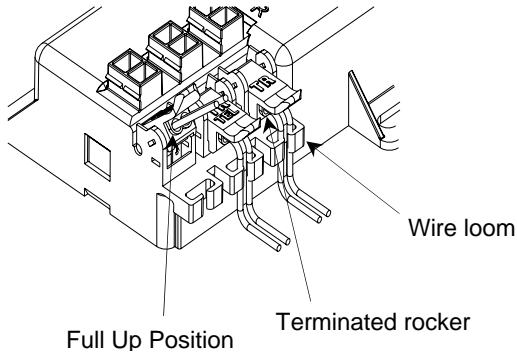

Figure 2
1. Lift the blue rocker for the digital voice service wires (MTA) to the full up position. DO NOT strip wires (See Figures 2 & 3).
2. Insert the digital voice service wires from ATA/EMTA through the grommets and into wire guides simultaneously until they bottom-out. While holding wires in position, terminate them into the MTA (Blue) rocker by lowering it to the full DOWN position (See Figures 2 & 3). If the ATA/EMTA is supplying power to the SVM, the green MTA power LED provided on the line will start to blink.
4. Connect the Telco Service using a wire pair from the Telephone NID to the rocker labeled TEL (orange). Follow the procedure described above for the wire pair termination (See Figures 2 & 3).
5. To keep the wire pairs organized, route them through the molded wire looms. (See Figure 2).